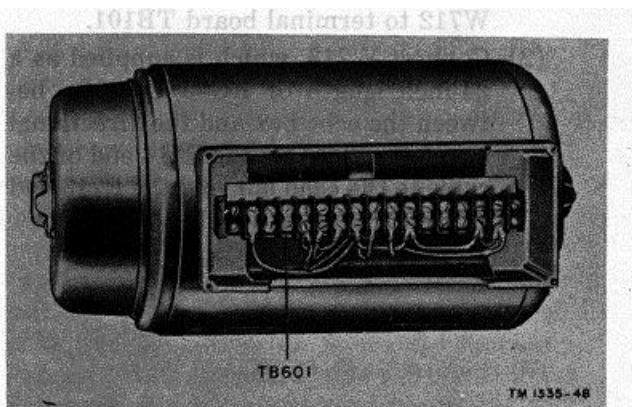

Figure 50. D-c motor generator terminal board.
- (1) Remove the cover (fig. 14) over terminal board TB601. Connect 16 of the 19 conductors of cable W701 to terminal board TB601 (fig. 50 or 51). For a long cable run, connect the spare